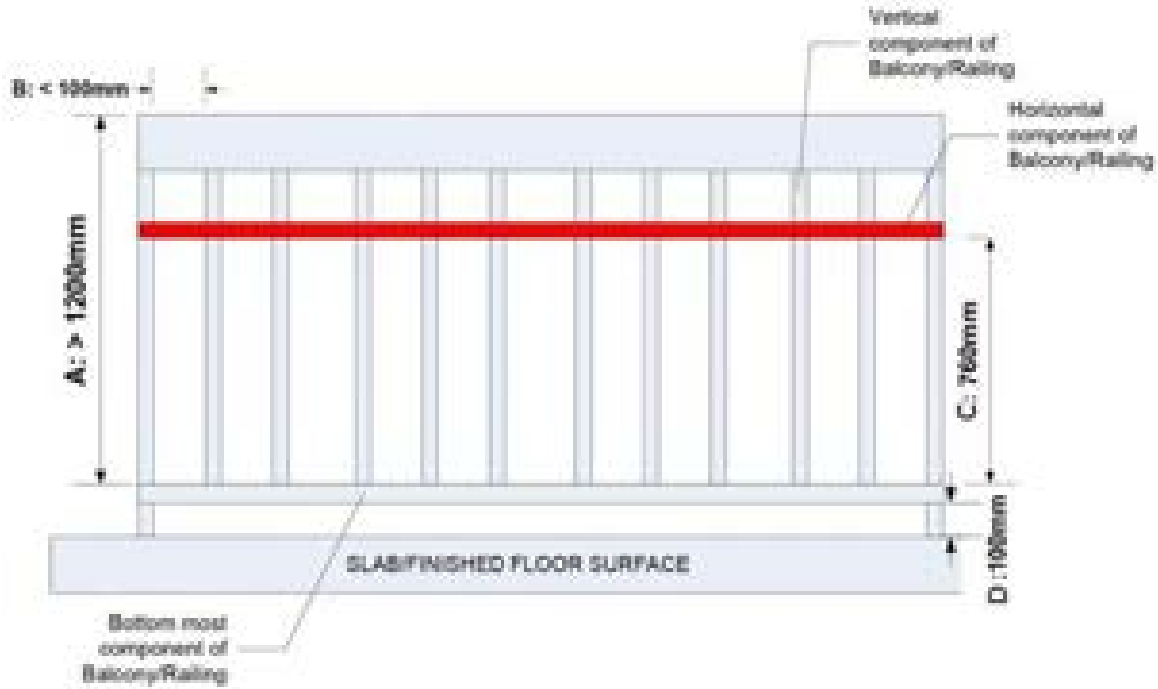

Figure 1 Guardrail Design Parameters
**(See Figure 1)**
- 3.3 Open guards must have balusters, vertical posts or ornamental patterns balustrades, with openings not exceeding 100 millimeters **(B)**. **(See Figure 1)**
**(See Item 3.2 and Figure 1)**
- 3.6 If the design demands any gap between the finished floor surface and the bottom most horizontal component of the guardrail **(D)**, such gap shall not be more than 100mm. **(See Figure 1)**